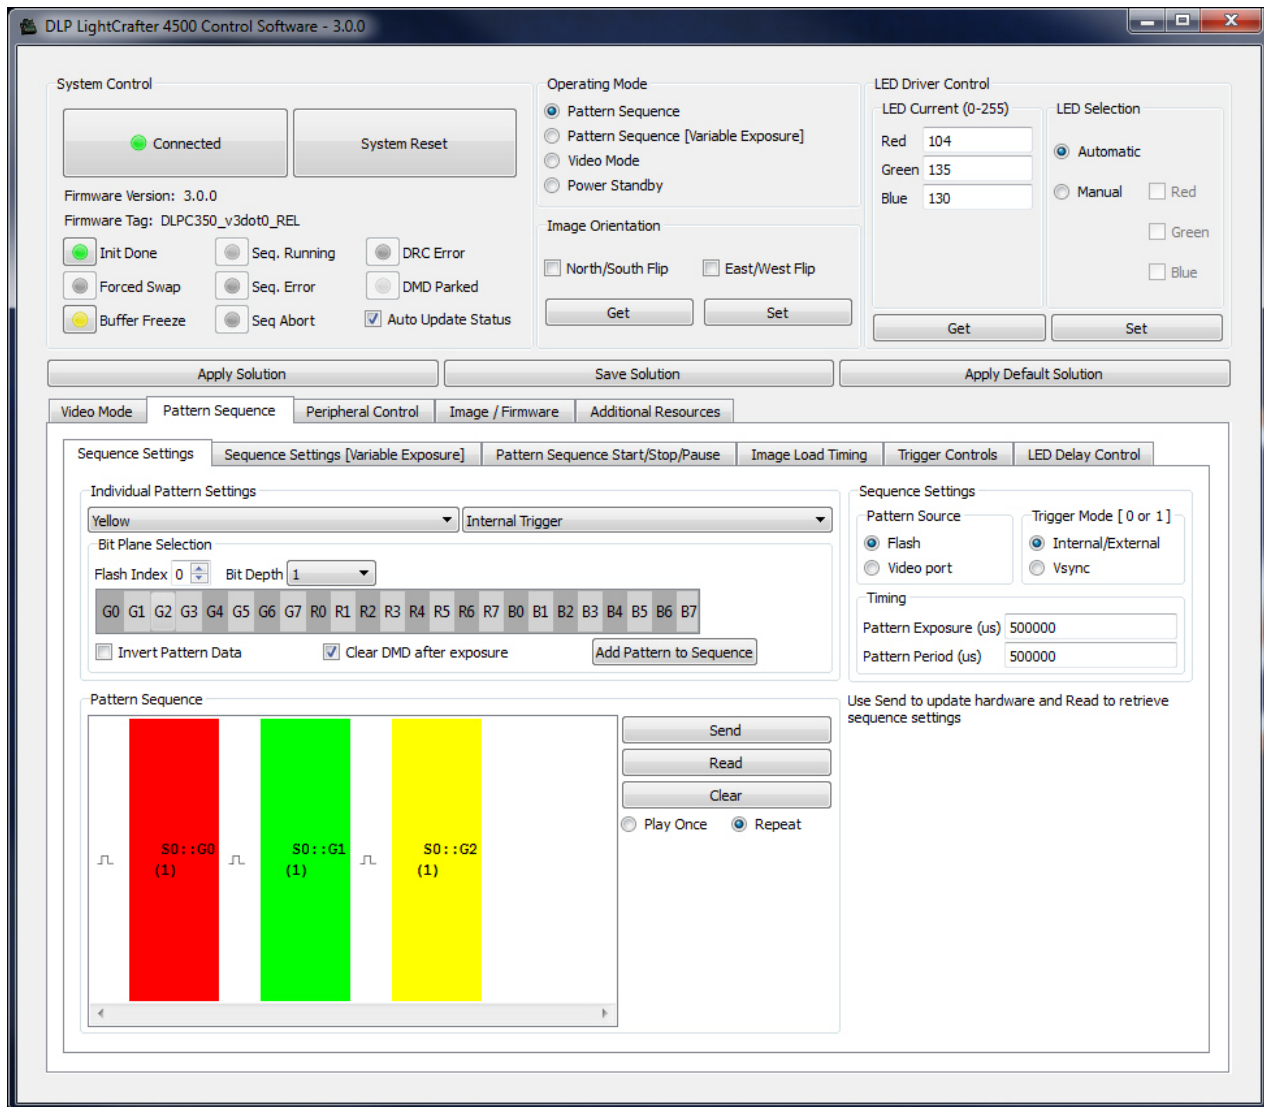

Figure 3-5. DLP LightCrafter 4500 GUI – Pattern Sequence Mode
A pattern sequence is composed of several patterns loaded from flash memory or streamed through the 24-bit RGB video port. Each individual pattern can have a specific set of LEDs illuminating it, a particular bit-depth, and an internal or external trigger. The *Sequence Settings* subtab lets the user define and set all the *Individual Pattern Settings*. The *Trigger Controls* subtab and the *LED Delay Control* subtab set the trigger and LED enable edge timings, respectively. The *Pattern Sequence Start/Stop/Pause* tab shows the pattern sequence validation status indicators and allows the user to play, pause and stop the sequence. Figure 3-5 shows the DLP LightCrafter 4500 GUI with the *Pattern Sequence* tab selected.
6. If the pattern sequence must be played once, set Play Once in Figure 3-5. This setting will play the number of patterns set in the *Trigger Controls* subtab under **Trigger 2 Patterns per pulse**. If set to 1, it plays the first pattern in the sequence and stops. If set to 10, it plays the first 10 patterns in the sequence. If the pattern sequence is to continuously repeat, set to repeat. Make sure to click the **Send** button after clicking on *Play Once* to download the new settings. If *Video Port* is selected as the pattern source, *Play Once* may not work as expected. *Repeat* is the recommended setting for video input.
The *Pattern Sequence* section in the *Sequence Settings* tab shows the pattern sequence as a set of colored rectangles. The color corresponds to the LEDs used. The entries on the rectangles represent the image source, the bit-plane, and the bit-depth as follows: S0::G0 (1) indicates flash location 0, bit-plane = G0, bit-depth = 1. F2::G5 (3) indicates Frame 2, bit-plane = G5, bit-depth = 3. For example, in Figure 3-5, a pattern sequence of three patterns is displayed. Each pattern is triggered every 500 ms and exposed for 500 ms. The first pattern is a 1-bit red pattern using bit-plane G0 from flash location 0. The second pattern is a 1-bit green pattern using bit-plane G1 from flash location 0. The third pattern is a 1-bit yellow pattern using bit-plane G2 from flash location 0.